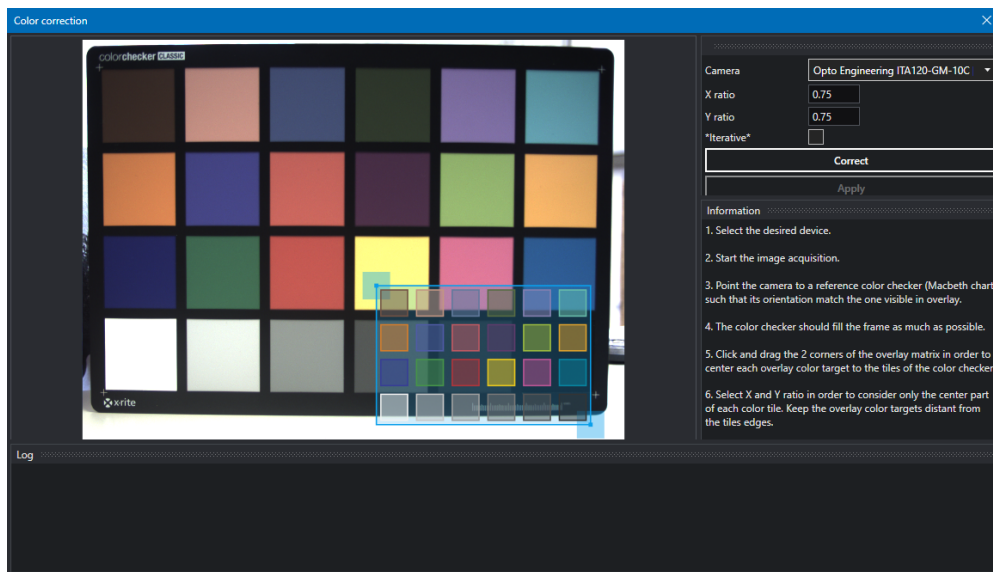

Figure 26: Window of the color correction wizard.
3. Open the Color Correction Wizard (*Wizard > Color correction*) (Fig.26).